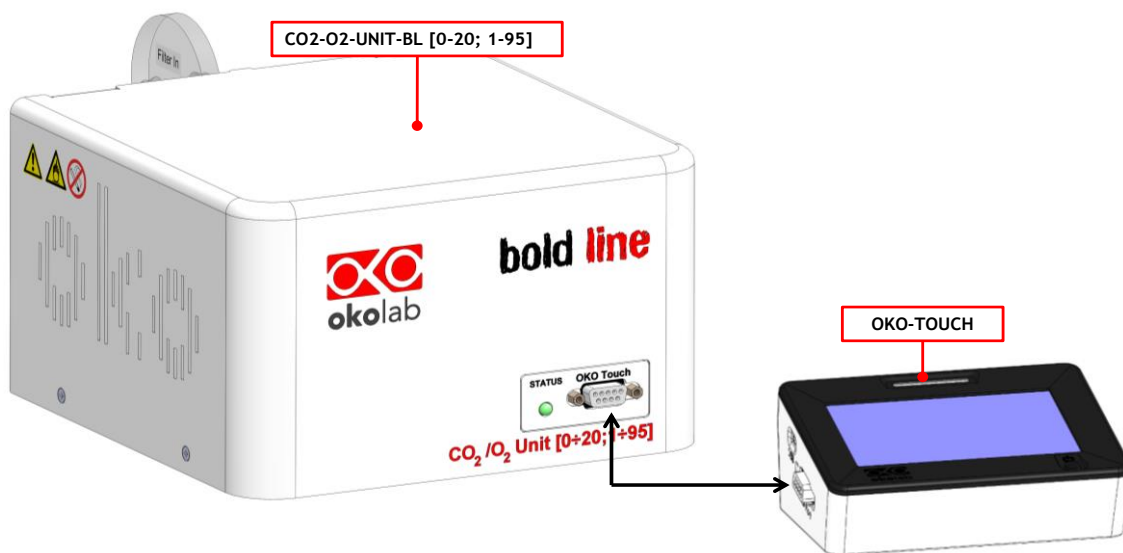

Figure 17. Oko Touch Connection.
8. Connect the touch screen interface OKO-TOUCH to CO2-O2-UNIT-BL [0-20; 1-95] with the RS232 serial cable as illustrated in Figure 17.